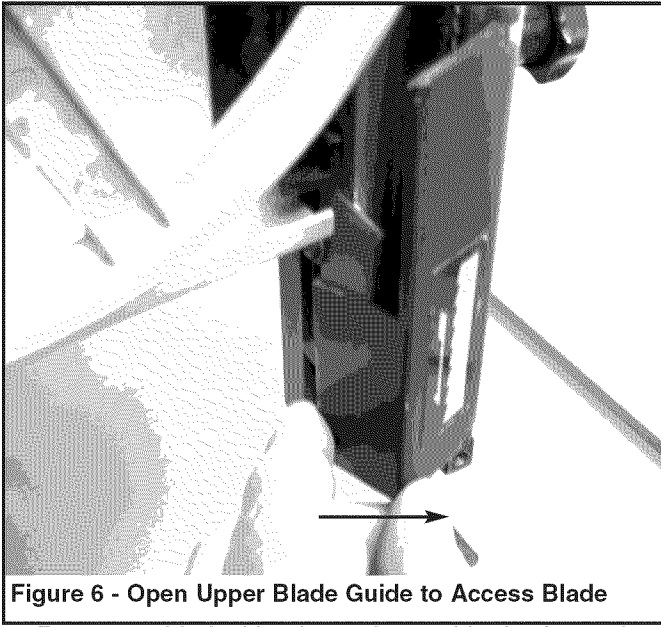

Figure 6 - Open Upper Blade Guide to Access Blade
- Lower the upper blade guide completely and unsnap guide panel to access the blade (see Figure 6).